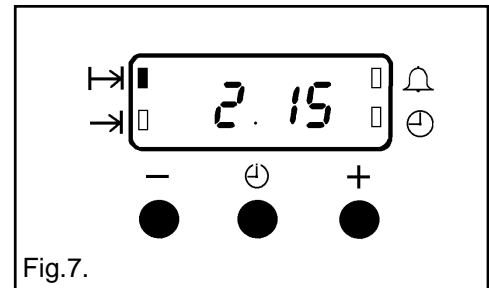

Fig.7.
- iii) To set the length of cooking time, press the Selector control button () until the 'Cook Time' indicator neon is illuminated (). Press the increase control (+) until the required length of cooking time is displayed, e.g. 2 hrs 15 mins as Fig. 7. If necessary depress the decrease control (-) until the correct time interval is achieved. The maximum cooking time is 10 hours.